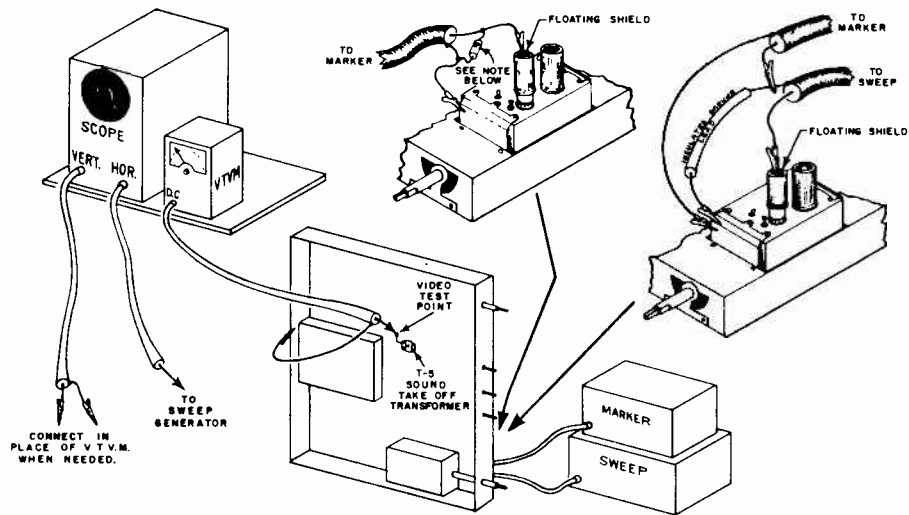

Figure 13. CONNECTIONS FOR I.F. ALIGNMENT.
- 3) Connect D.C. V.T.V.M. to video test point (see location in Fig. 13 and 14).
- 4) Connect terminated marker generator to floating shield of converter tube V-23 6J6. (Shield raised slightly so that it does not make contact with chassis). Use unmodulated marker. See Fig. 13.
2. Connect scope to video test point (see location Fig. 13 and 14).